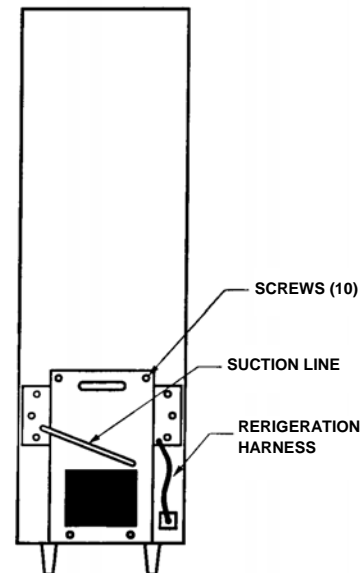

FIGURE 14. REFRIGERATION UNIT REMOVAL
3. Remove only the ten screws holding the refrigeration unit to the cabinet as shown in Figure 14.